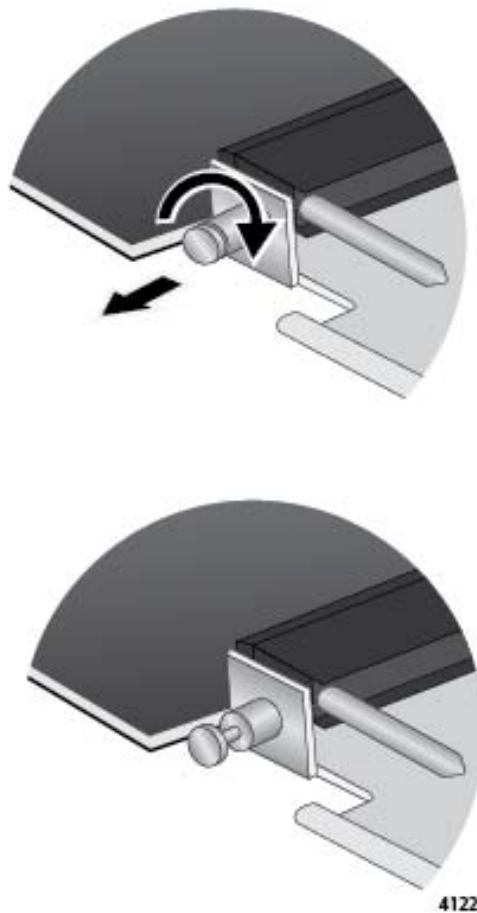

Figure 77. Retracting the Retaining Pin on the AT-SBx81XLEM Line Card
6. With your thumb and forefinger, pull out the retaining pin on the side of the line card and turn it clockwise one quarter turn so that it remains in the retracted position. Refer to Figure 77 on page 149.